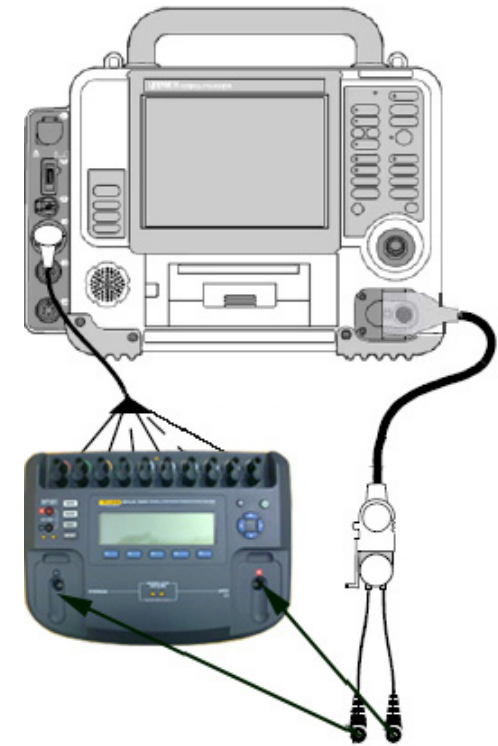

Figure 5.53—Pacer leads-off test setup
1. Establish the setup shown in Figure 5.53.